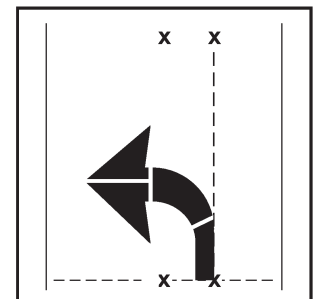

Figure 22
- Lay out the top two sections of the curve arrow (liner still on) on the curve arrow base (see Figure 22).